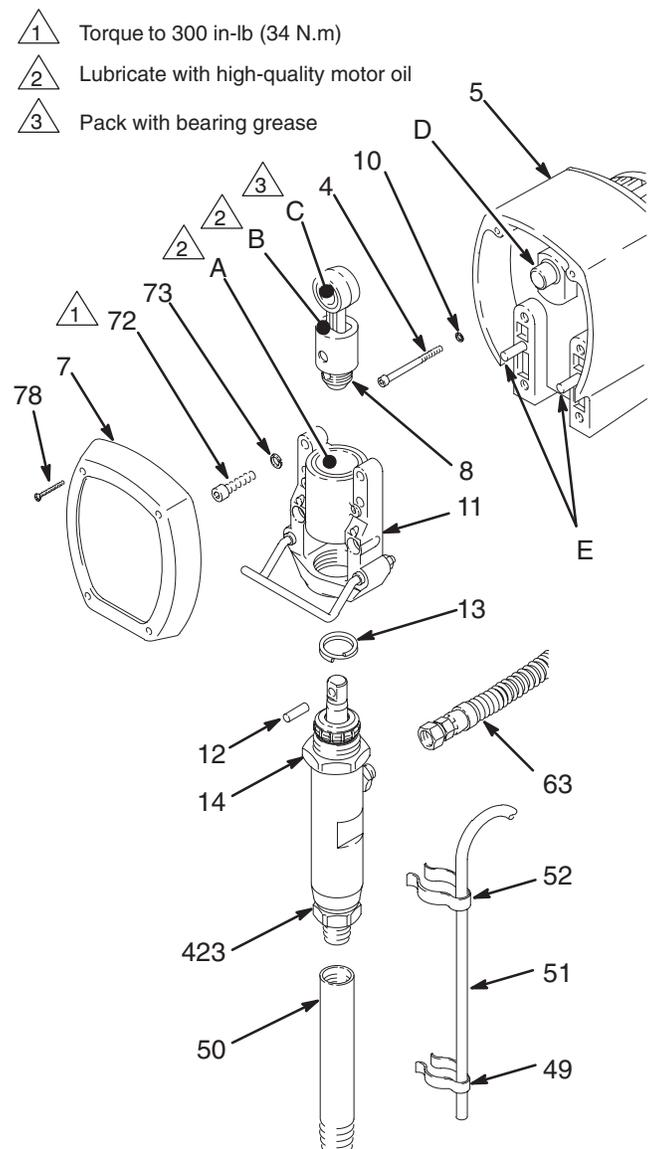

Fig. 7
**NOTE:** Steps 1 to 13 refer to Fig. 7.
2. Remove the spring clips (49,52) and the drain hose (51). Unscrew the suction tube (50) from the pump, holding a wrench on the pump intake valve (423) to keep the pump from loosening.
3. Disconnect the hose (63) from the pump.
4. Use a screwdriver to push aside the retaining spring (13) at the top of the pump. Push the pin (12) out the rear.
5. Loosen the jam nut (14) with an adjustable wrench. Unscrew and remove the displacement pump.
6. Use a hex key wrench to remove the four screws (72) and lockwashers (73) from the bearing housing (11).
7. While pulling the connecting rod (8) with one hand, lightly tap the lower rear of the bearing housing (11) with a plastic mallet to loosen it from the drive housing (5). Pull the bearing housing and the connecting rod assembly (8,11) off the drive housing.
8. Inspect the crank (D); replace the drive housing if the crank is worn excessively.
9. Evenly lubricate the inside of the bronze bearing (A) in the bearing housing (11) and the inside of the connecting rod link (B) with high-quality motor oil. Liberally pack the roller bearing (C) in the connecting rod (8) with bearing grease.
10. Assemble the connecting rod (8) and bearing housing (11).